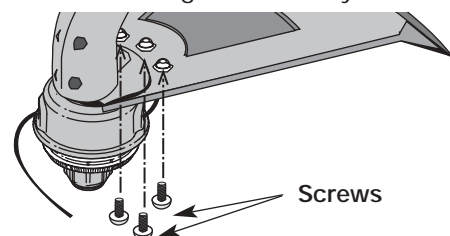

Fig. 5
3. Install a screw into the hole from the bottom of the cutting attachment shield and screw it into the nut installed in step 2 (Fig 5). Do not tighten.